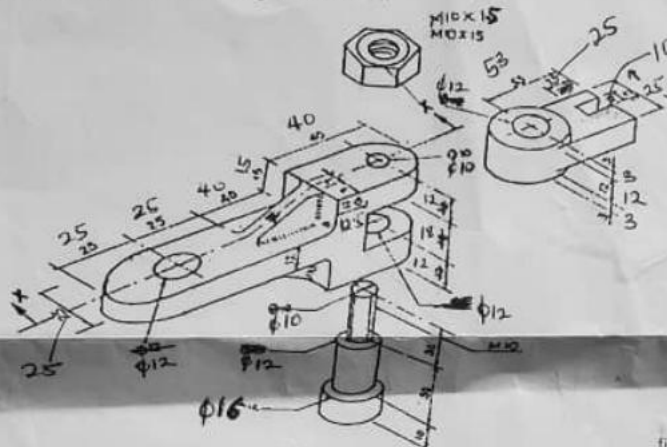

figure 1
- (a) Produce an assembly drawing of the four components as shown in figure 1.
(b) Produce a sectional view X-X of the figure 1 as shown